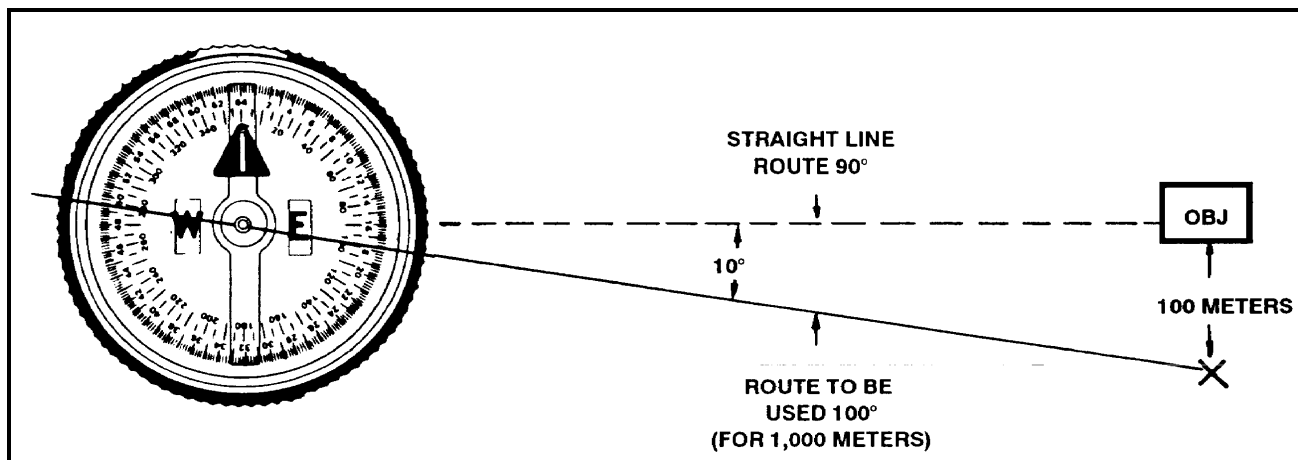

Figure 9-6. Deliberate offset to the objective.
e. **Offset.** A deliberate offset is a planned magnetic deviation to the right or left of an azimuth to an objective. Use it when the objective is located along or in the vicinity of a linear feature such as a road or stream. Because of errors in the compass or in map reading, the linear feature may be reached without knowing whether the objective lies to the right or left. A deliberate offset by a known number of degrees in a known direction compensates for possible errors and ensures that upon reaching the linear feature, the user knows whether to go right or left to reach the objective. Ten degrees is an adequate offset for most tactical uses. Each degree offset will move the course about 18 meters to the right or left for each 1,000 meters traveled. For example, in Figure 9-6, the number of degrees offset is 10. If the distance traveled to "x" in 1,000 meters, then "x" is located about 180 meters to the right of the objective.